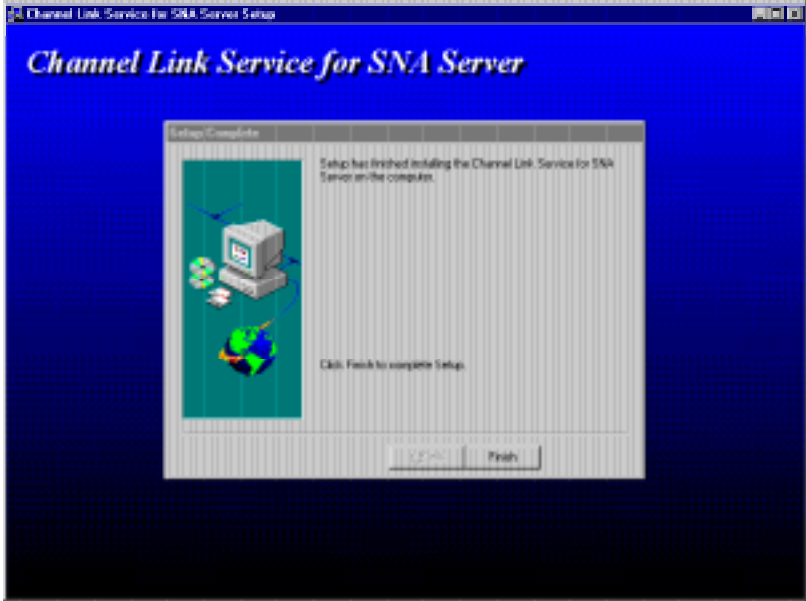

Figure 8-5. Installation Complete
- 4. When the Setup Complete screen (Figure 8-5) appears, click Finish to end the installation.